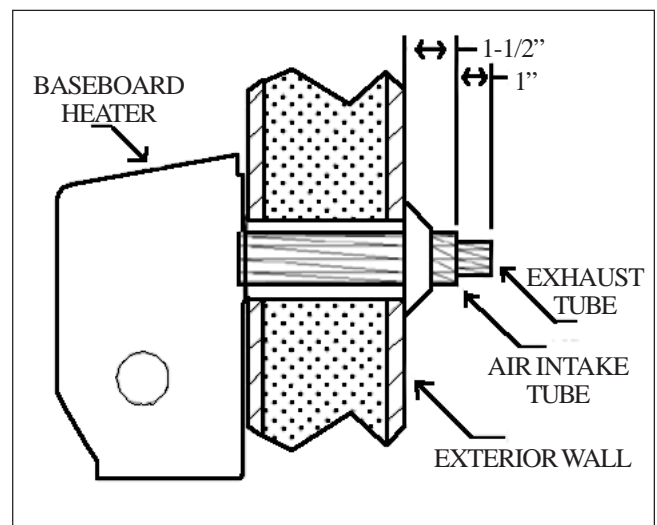

FIGURE 6
- e) Attach air intake pipe to back of heater using six #8 screws provided. See Figure 6.